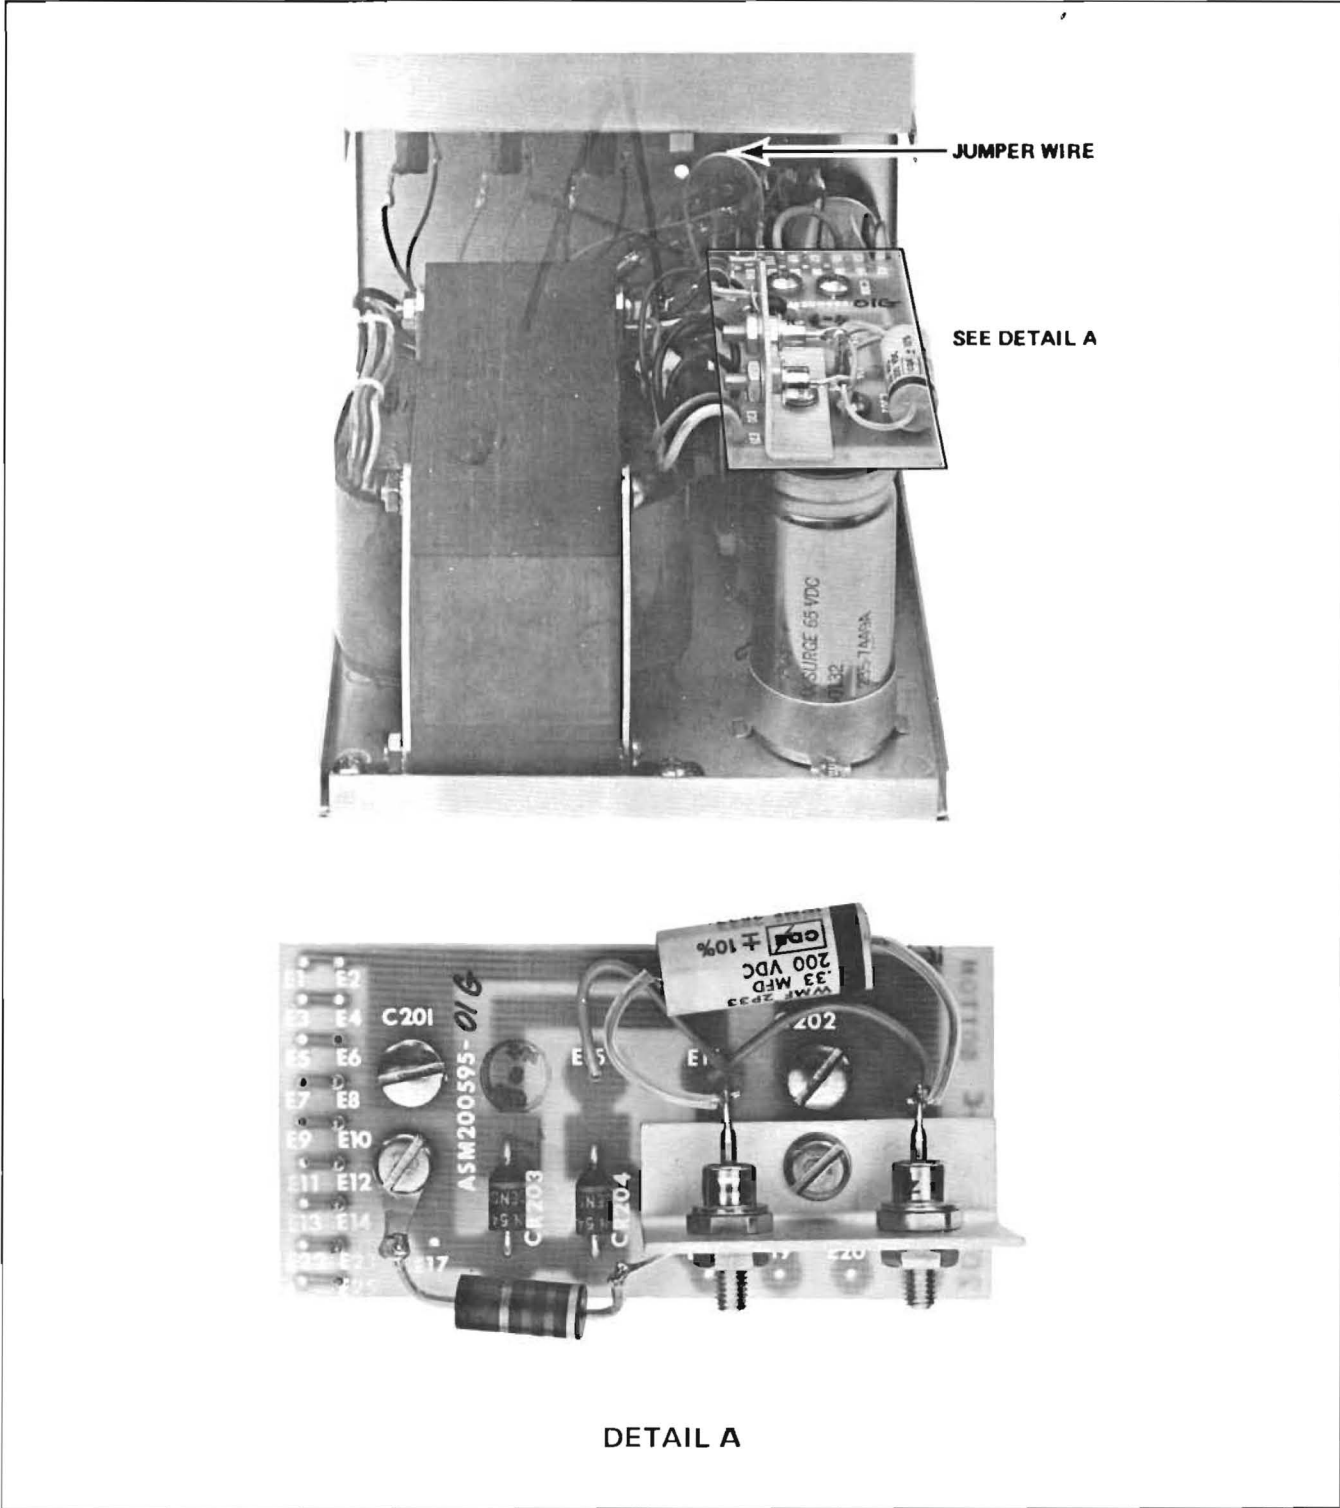

Figure 2-3. Power Supply Jumper
- E. Connect cable W4 between ac power plug J201 on the power supply and a 115-120 volt, 50/60 Hz power source. If the recorder is operated at a different line voltage, the jumper plug on the power transformer input winding, Figure 2-3 and Table 2-1, should be changed for optimum performance. Assure proper system grounding and completely check all cables before applying power.